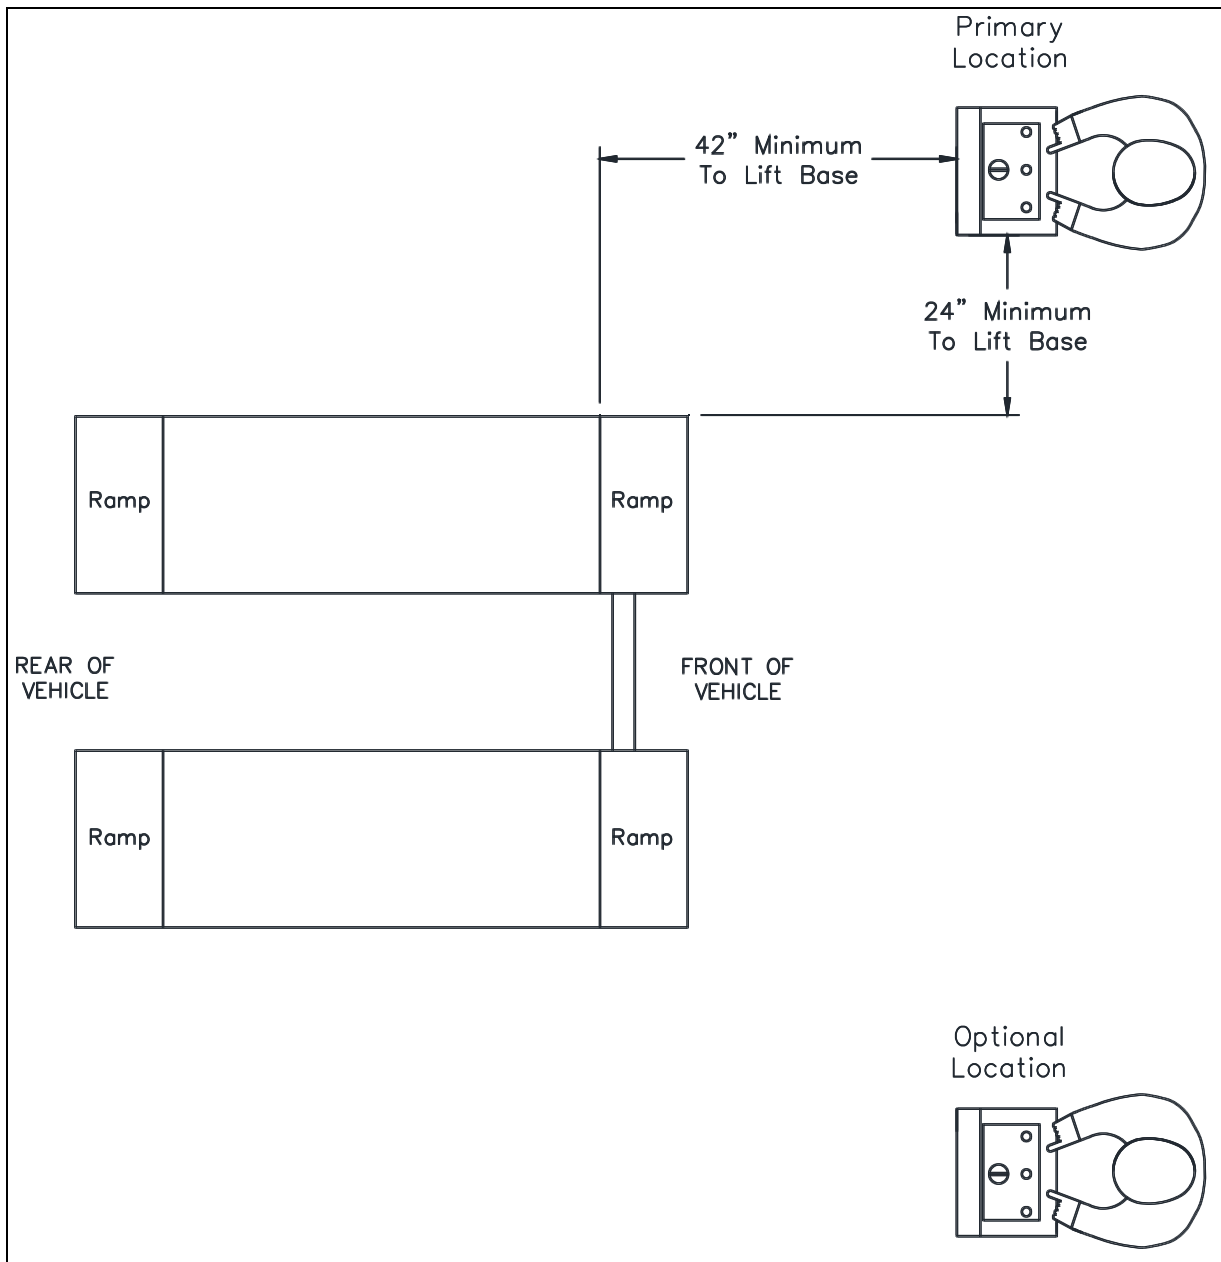

Fig. 2 – Control Console Placement
E Distance to Controls	Refer to Fig. 2
- 2) See **Fig. 2** for control console location. Relocating the control console further away than the standard distance will require the installer to provide suitable hydraulic hoses and air line. Additional hose covers will also be needed if installing lift in surface mount configuration. Hydraulic hoses should be 1/4" minimum ID with a minimum working pressure of 3000 psi and a minimum burst pressure of 12,000 psi with #6 JIC Swivel Female fittings. The air line for the locks requires Ø6mm OD x 1mm wall poly tubing. **NOTE: Extend both hydraulic hoses the same length and do not extend the hoses more than 21 feet [252 in].**
7) Place Control Console as shown in **Fig. 2** for surface mount or flush mount applications. Operator should be in a position to notice any misalignment of lifting pads or vehicle during operation. Challenger Lifts does not recommend placing the console in a different location or orientation and doing so would be the responsibility of the installer and/or end user.